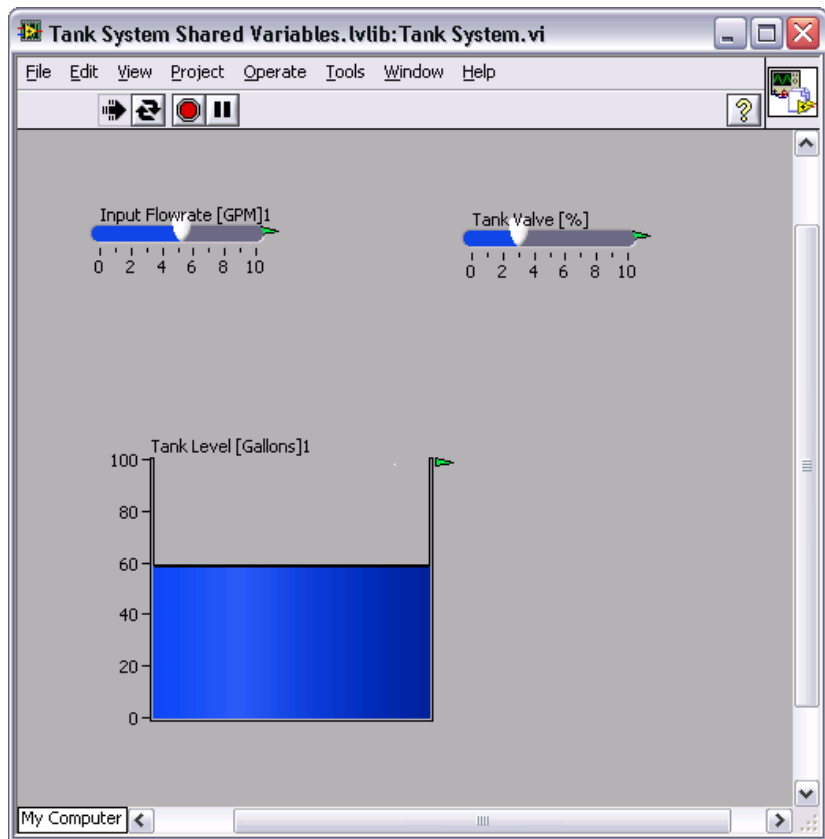

Figure 3. Tank System VI Front Panel
17. Click the **Run Continuously** button to run the VI. The VI should function in the same way as the example you ran in the Opening and Running an Example exercise. Figure 3 illustrates the front panel of the Tank System VI.